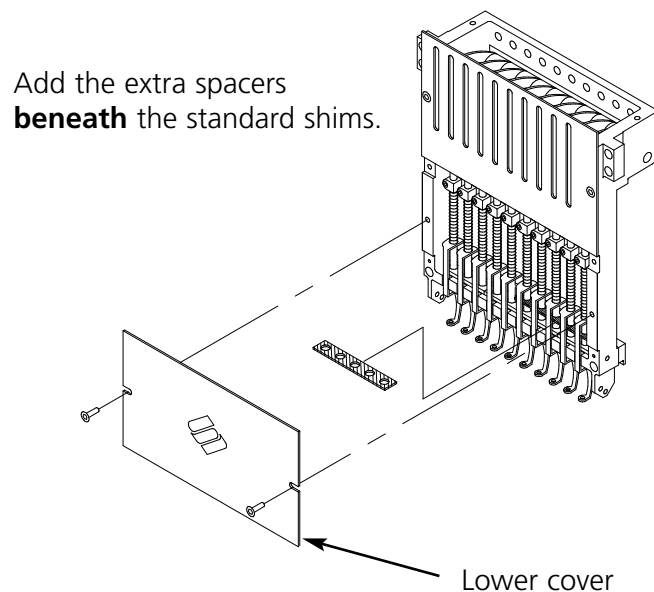

Figure 3-5
Raised needle plates improve embroidery quality on caps. When cap frames are attached, the curve of the frame leaves extra space between the cap and the needle plate. To eliminate the space and ensure high-quality embroidery, a qualified operator or maintenance person should install raised needle plates as described below. See Figure 3-5.
3. Using a small flat-bladed screwdriver, push the standard spacer up to the top of the presser foot assembly (see Figure 3-5).